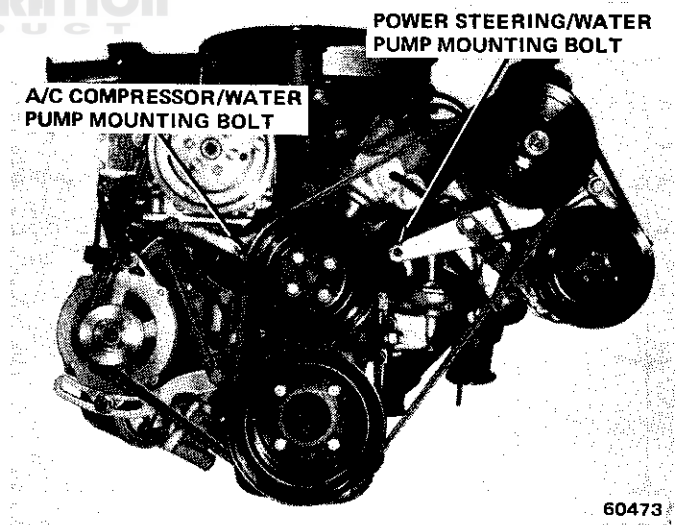

Fig. 1C-21 Water Pump Removal—Eight-Cylinder
- (8) Remove alternator and mount bracket assembly and place aside. Do not disconnect wires.
- (9) If equipped with power steering, remove two nuts that attach power steering pump to rear half of pump mounting bracket.
- (10) Remove two screws that attach front half of bracket to rear half.
- (11) Remove remaining upper screw from inner air pump support brace, loosen lower bolt and drop brace away from power steering front bracket (fig. 1C-21).
- (12) Remove front half of power steering bracket from water pump mounting stud.
- (13) Disconnect heater hose, bypass hose and lower radiator hose at water pump.
- (14) Remove water pump and gasket from timing case cover.
- (15) Clean all gasket material from gasket surface of timing case cover.